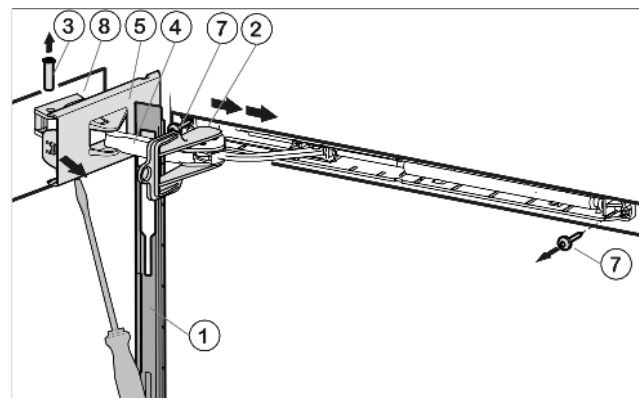

Fig. 6
- ▶ Push panel forward over the damper bracket Fig. 6 (4) in the direction of the appliance.
- ▶ Engage locking device Fig. 6 (2) into place inside oblong hole.
- ▶ Unscrew cover Fig. 6 (5) that is on the hinge side until the first notch using a screwdriver.
- ▶ Push bolt Fig. 6 (3) out from below.
- ▶ Press damper bracket Fig. 6 (4) in the direction of the door.
- ▶ Completely loosen cover Fig. 6 (5) that is on the hinge side and remove.
- ▶ Remove panel Fig. 6 (1).
- ▶ Unscrew soft stop unit (2 x Torx® 15) Fig. 6 (7).
- ▶ Unscrew bearing part Fig. 6 (8), turn it 180° and move it to the opposite side. Make preliminary holes (optional) or use a cordless screwdriver.